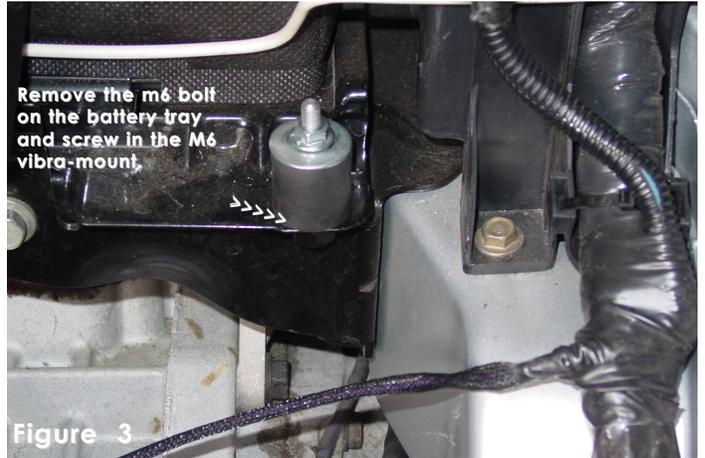

Figure 3
- 2- Remove the m6 bolt from the base of the battery tray and screw in the m6 vibra-mount. (See fig. 3)